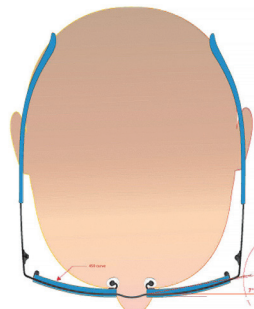

FIG. 11
**Adding face form:** The average frame has 5 to 7 degrees of face form (Fig. 11). To add face form, grasp both sides of the top of the frame with fingers supporting the back of the frame near the bridge and thumbs positioned at the front temple side of the frame chassis. This allows you to apply enough pressure to gently curve the frame front to follow the curve of your patient's face. Note: Plastic frames must be warmed before bending.